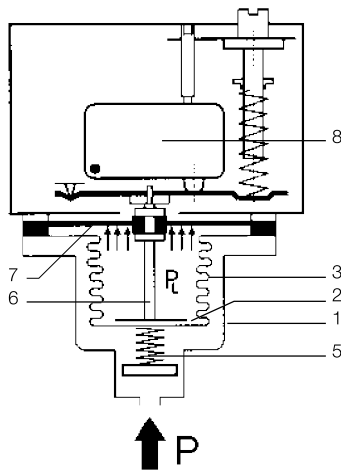

Fig. 1
- By a self monitoring pressure sensor which is designed so that a breakage in the mechanical part of the measuring element leads to cut-off to the safe side (see Fig. 1)
Fig. 1 is a cross-sectional diagram of a pressure sensor which fulfils the "special construction" requirements. The measuring chamber is bordered by the housing (1), base (2) and measuring bellows (3). All parts are made of stainless steel and are welded together without filler metals. When the pressure rises the measuring bellows (3) moves upwards, supported by the back pressure spring (5). The setpoint spring installed in the switching device acts as a counter force. A transfer bolt (6) which transfers the pressuredependent movements of the measuring bellows (3) to the switching device located above is placed on the inside of the base. A plastic diaphragm (7), which is not in contact with the medium and in normal operation follows the movements of the measuring bellows but itself has no influence on the position of the bellows, is clamped in the upper part of the transfer bolt. On breakage of the measuring bellows (3), the medium can escape into the interior of the bellows. The medium pressure is now on the underside of the diaphragm (PL). An additional force is generated because of the far larger effective area of the diaphragm compared with the bellows, and this pushes the transfer bolt (6) upwards. This results in cut-off to the safe side. The cut-off condition thus achieved is normally interlocked electrically or mechanically, so that the system also remains cut off when the pressure drops again. The plastic diaphragm (7) is not a pressure-bearing part; it has no function in normal operation and is effective only if a leakage occurs to the measuring bellows. Safety diaphragms of the described design are permissible up to 32 bar. This should be sufficient for most applications.